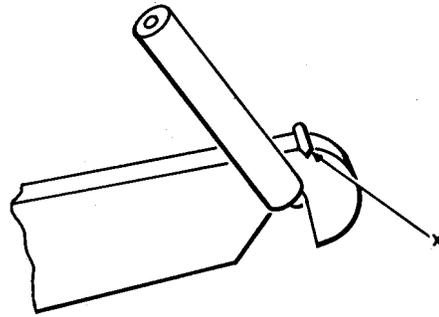

Fig. 7—Termination of Wire on Terminal of a 65-or Similar-Type Terminal Strip
7.09 To terminate a wire on a 65-type or similar terminal strip, route the wire along the left side of the terminal, through the notch, back along the right side of the terminal, and across the top, as shown in Fig. 7. Break the excess wire at point "X", except 20-gauge wire, which should be cut.